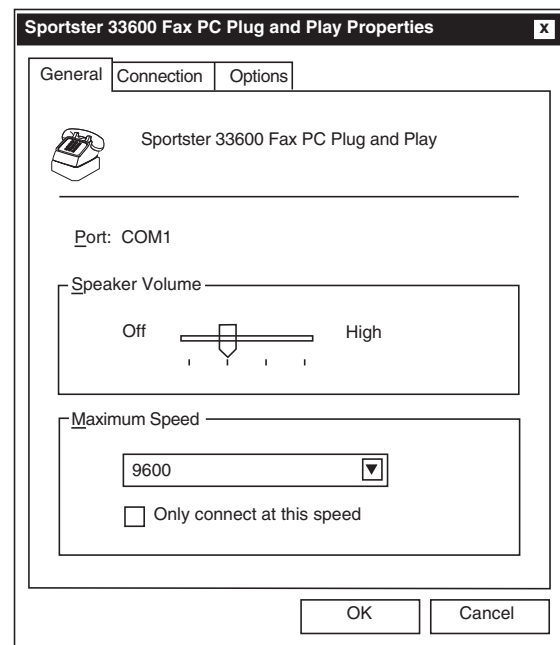

Figure 9-2 Modem Plug and Play Properties Dialog Screen
- d. Select **Configure Line...**, GE-2029A displays the **Modem Plug and Play Properties** dialog screen (Figure 9-2).